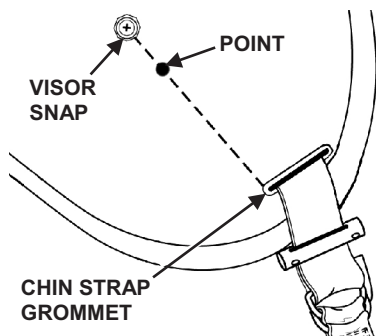

Figure 6. X-Large
- a. Referring to **Figure 6**, draw a line between the center of the existing visor snap on the helmet and the rearward end of the chin strap grommet.